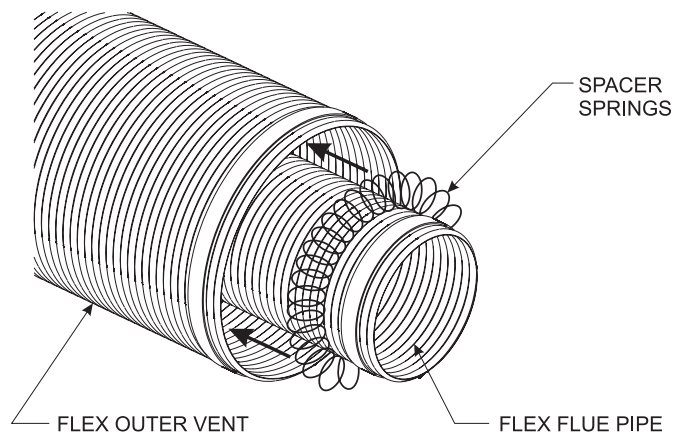

Figure 68
2. Check to see that the vent spacer springs are located around the flue vent at 8" intervals along its length. **See Figures 68 & 69.** If not, stretch the spacer springs to about 15" long and wrap them around the flue, then interlock the ends of each spring. Maintain equal distance between spring spacers.